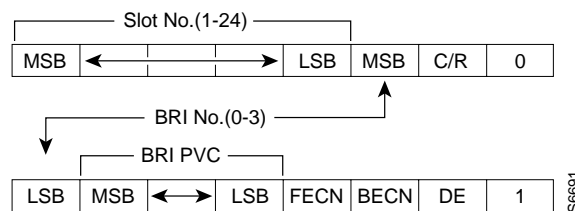

Figure 5 Frame Relay Header
4.02 T1 Data Format—The Cisco 90i uses Frame Relay protocol on the T1 line. The Frame Relay header has a 10-bit address, called the data link connection identifier (DLCI), which is used to identify the PVC carrying the data. The Cisco 90i breaks the 10-bit DLCI into specific fixed length fields and uses those fields to identify the destination or source channel unit, port, and subscriber PVC for transferred data. The Frame Relay header is two bytes and is illustrated in Figure 5.